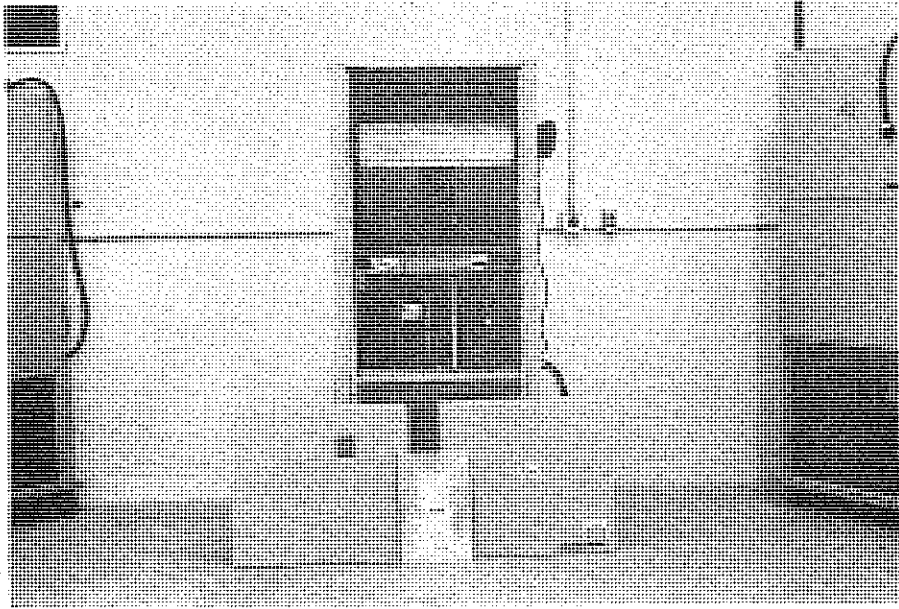

FIGURE 3
(SEE FIGURE 3)
- 3.) REMOVE AND SAVE EXISTING UNIT RETURN AIR FILTER. IN THE EVENT SOME 2 & 3 TON UNITS ARE EQUIPPED WITH CONTROL MODULE OPTION, MOVE MODULE FROM TOP OF COMPRESSOR PARTITION TO BACK OF PARTITION TO ALLOW ROOM FOR ECONOMIZER INSERTION (SEE FIGURES 3 & 4). ACCESS TO THE MODULE CAN NOW ONLY BE MADE FROM INSIDE THE BUILDING BY REMOVING THE FILTER GRILL OR BY PROVIDING AN ACCESS PLATE IN THE RETURN AIR DUCTWORK.